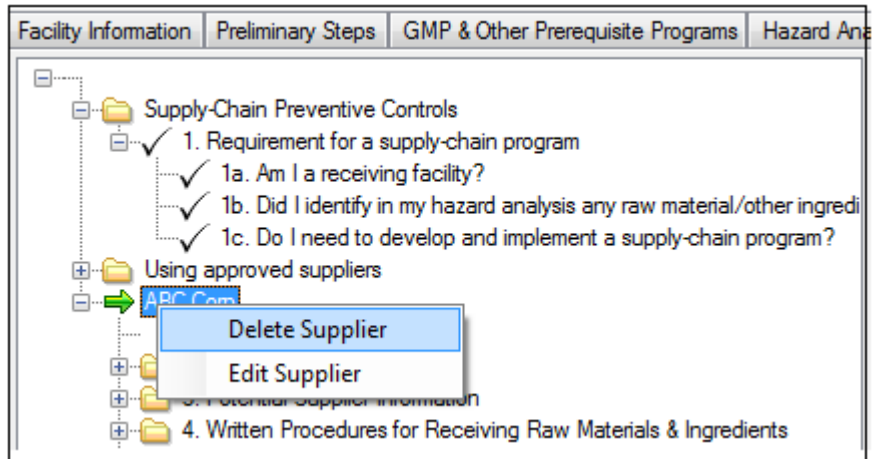

Figure 66: Delete Supplier
Step 3: In Question 2b, for each approved supplier added in question 2a, one or several ingredients can be added (Figure 66).